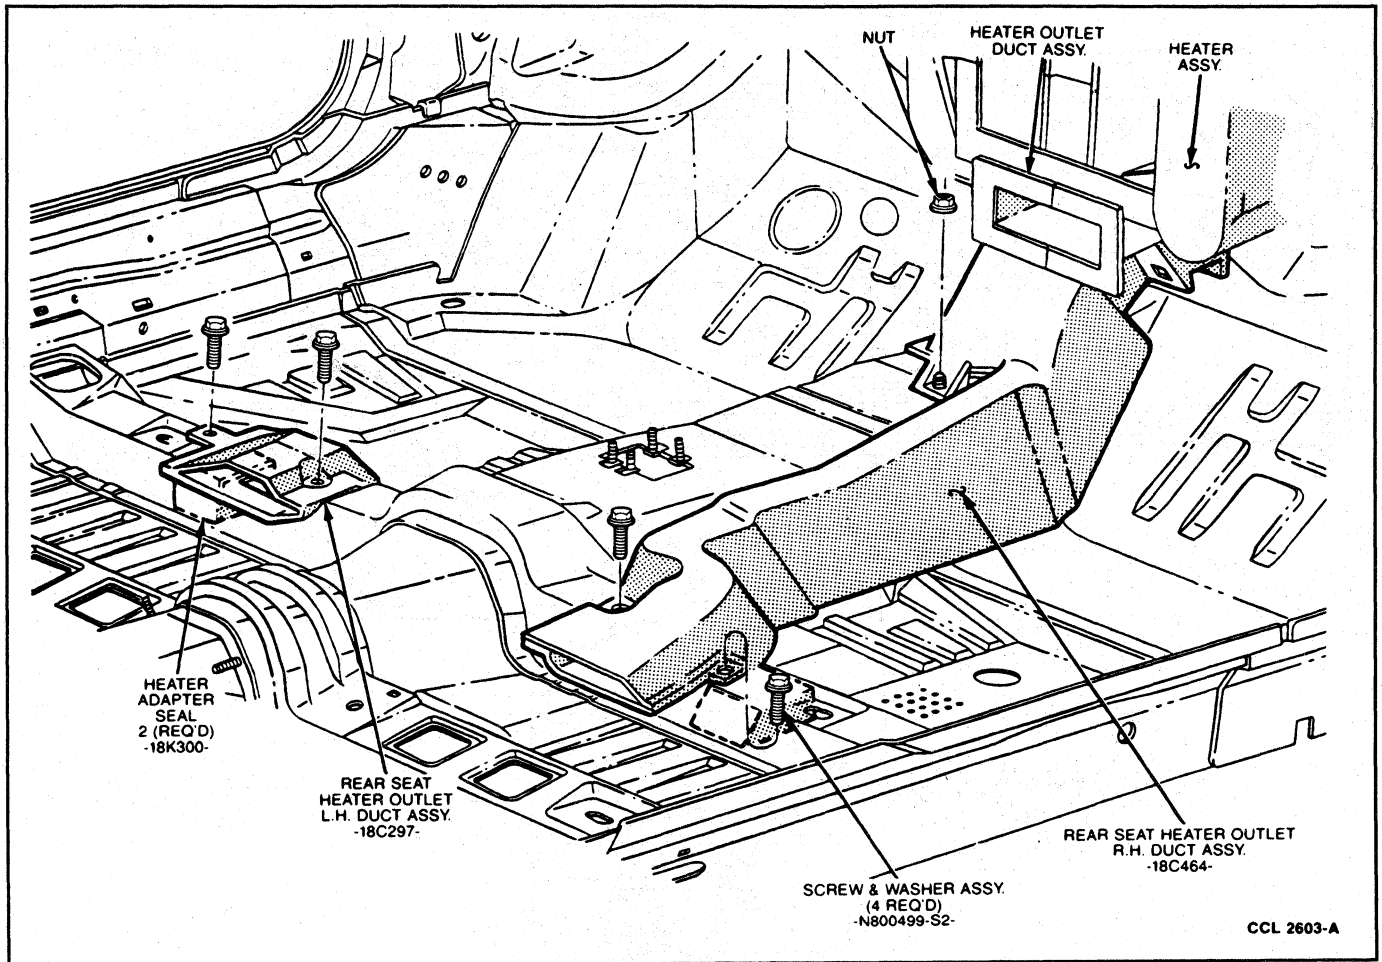

FIG. 31 Heater Duct—Rear Seat
2. Remove nut holding rear duct on tunnel (Fig. 31).